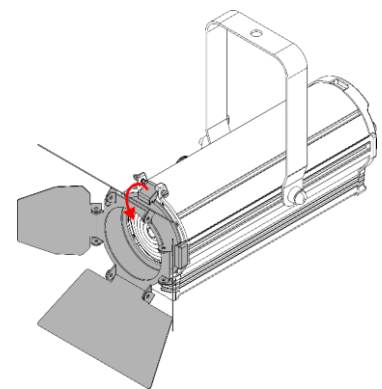

Fig. 12
- 03) Pull the **color frame clip (08)** downwards to release the **spring-loaded screw (09)** (see Fig. 12). The barndoor will be locked in position.